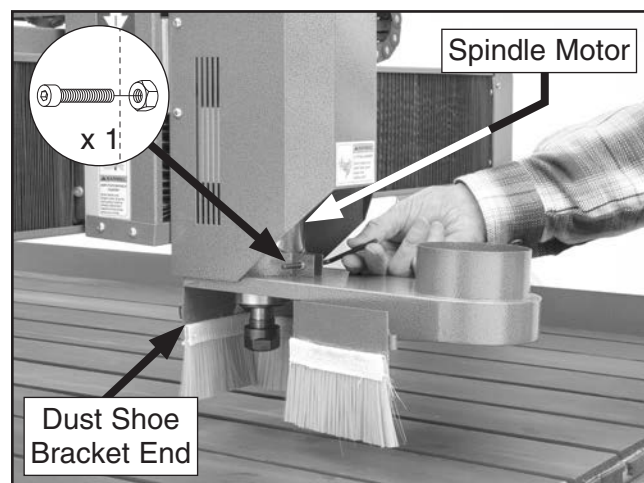

Figure 16. Attaching dust shoe bracket.
1. Attach dust shoe bracket end to spindle motor and secure with (1) M5-.8 x 45 cap screw and (1) M5-.8 hex nut (see **Figure 16**).